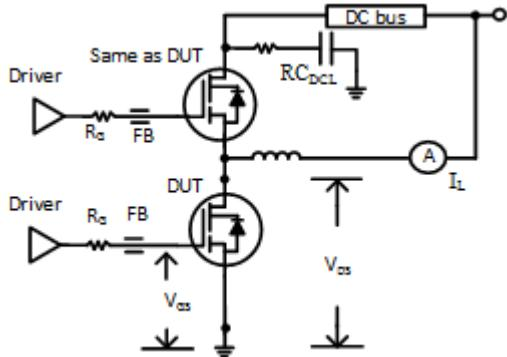
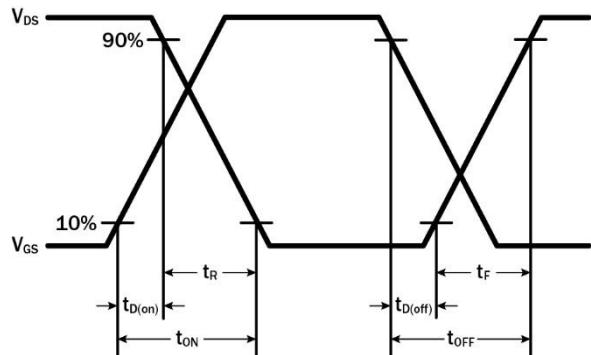

Figure 17. Switching Time Test Circuit
Figure 18. Switching Time Waveform
1. Dynamic $R_{DS(\text{on})}$, 100% tested; see Figure 17 and Figure 18 for conditions.